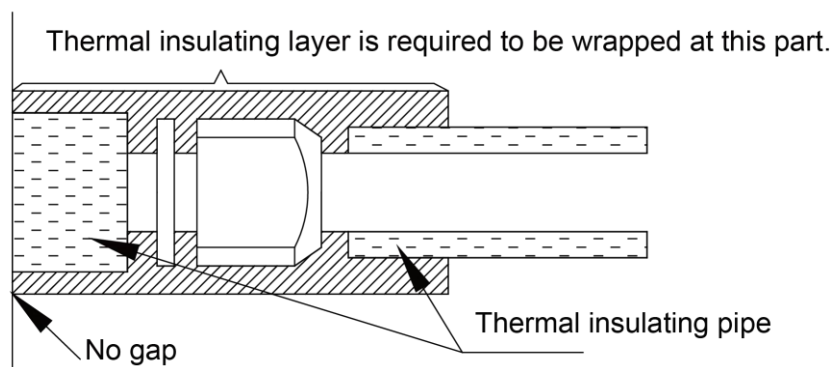

Fig.4.3.6
- 3) Wrap joints of indoor/outdoor units with insulating materials. There must be no gap between the joint and the wall of indoor/outdoor unit, as shown in Fig.4.3.6.